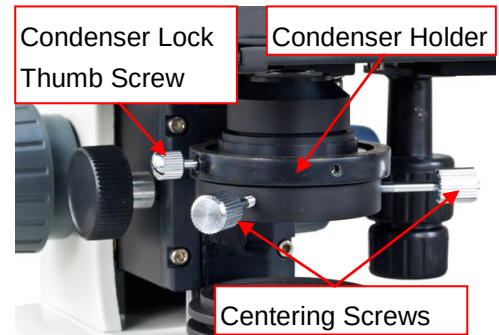

Fig.10
- Install the dry darkfield condenser and tighten the condenser lock thumb screw on the condenser holder (see **Fig. 10**).